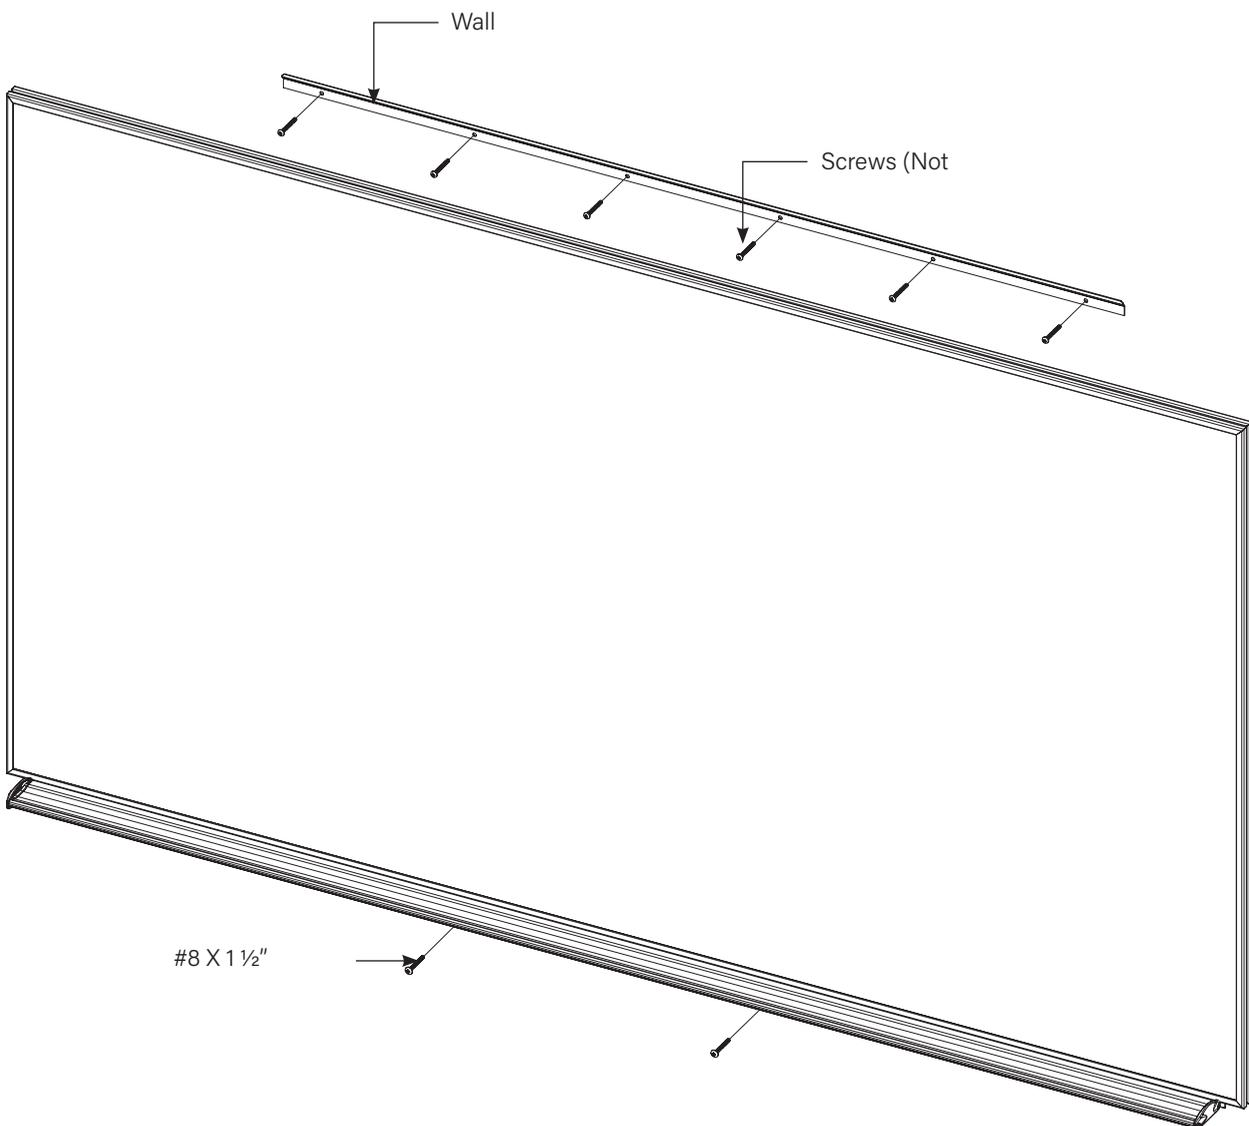

Figure 2
3. This step requires two people. Hang the screen on the wall bracket (Figure 2). There is a lip on the back of the frame that wedges itself into the wall bracket once fully installed.
4. Attach bottom of screen to wall with two screws. The bottom mounting holes are located under the tray (Figure 2).